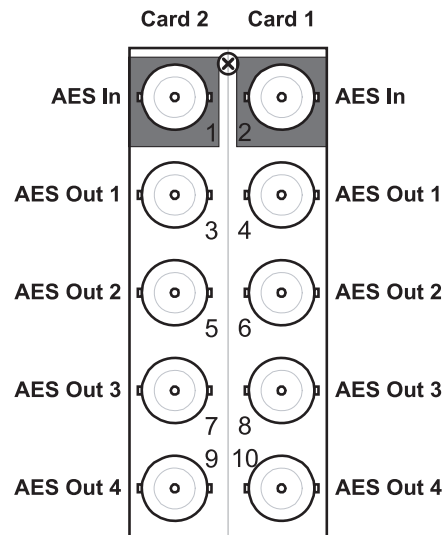

Figure 2.3 Cable Connections for the 8320AR-031 Split Rear Module
- **8320AR-031** Split Rear Module — Each module occupies two slots and accommodates two cards. This rear module provides one AES input and four AES outputs per card. (**Figure 2.3**)